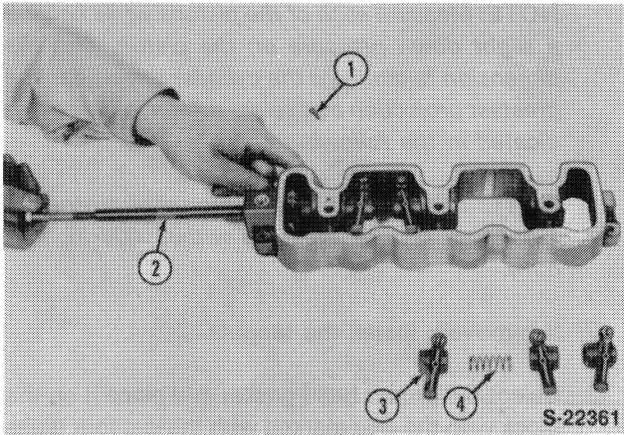

Figure 28
Reference — Figure 28
1. Remove the setscrew (1).
NOTE: A setscrew (1), Figure 28 locks the rocker shaft in place in the support. Remove the setscrew before attempting to remove the rocker shaft.